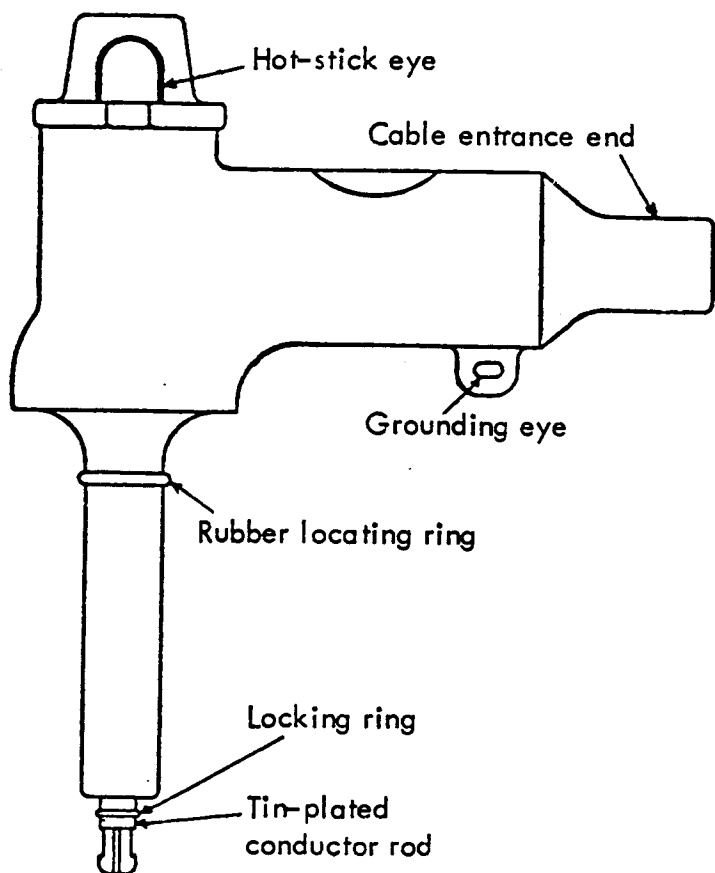

Fig. 2. Elbow assembly, located on each end of potential connector assembly
1. After the transformers have been bolted solidly in place and the secondary wiring is completed, the interconnections between the current and voltage transformers can be made. Begin by removing the protective caps from the elbow probe ends (Fig. 2) and inspecting the conductor rod to be sure that:
5. The elbows are now ready for final seating in the locked position. This can be done by rapidly applying a force directly in line with the hot-stick eye of the elbow. See Fig. 2. This should move the locking ring into a slot in the contact inside the potential terminal, and the rubber locating ring should be within 1/8 inch from the potential terminal opening.
6. To insure proper grounding of the cable and elbow assembly, a ground wire should be run from the grounding eye (Fig. 2), at the cable entrance of the elbow connected to the potential transformer, to a ground clamp on the enclosure.
1. Unscrew the tin-plated conductor rod (Fig. 2) from the elbow and remove it, using an adjustable wrench applied to the flats at the tip of the rod.